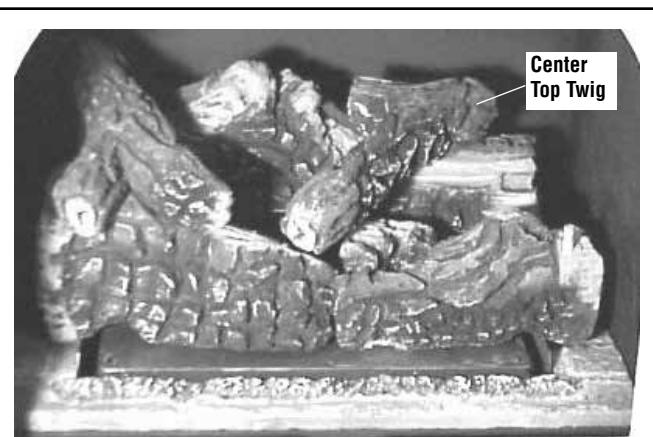

Figure 23
7. Install the center top twig onto the corresponding pin on the rear log and align it with the indentation on front left log as shown in **Figure 23**.